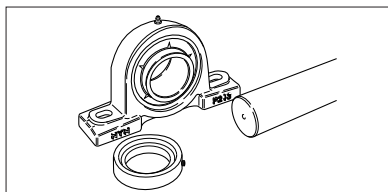

Fig.8.9
- 2) Check the shaft end for burrs and confirm that the tip of eccentric collar set screw does not stick out of the bearing bore face (Fig.8.9).